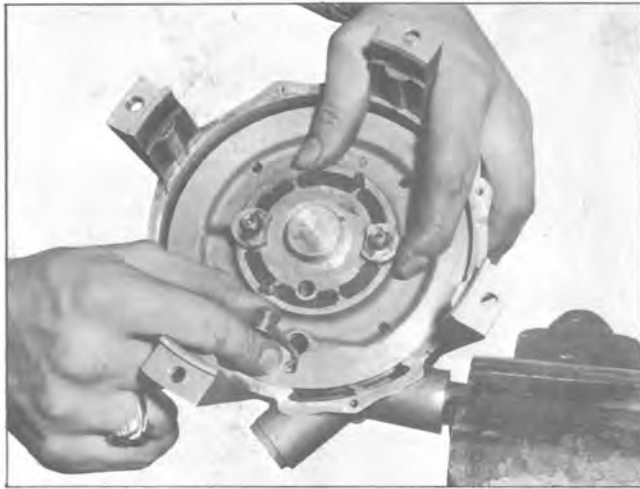

Fig. 27 — Removing Starter Cable
3. Secure starter housing in vise. Pull starter cable all the way out and remove handle. Remove cable from drum. See Fig. 27. Slowly turn drum until all tension is removed from recoil spring.